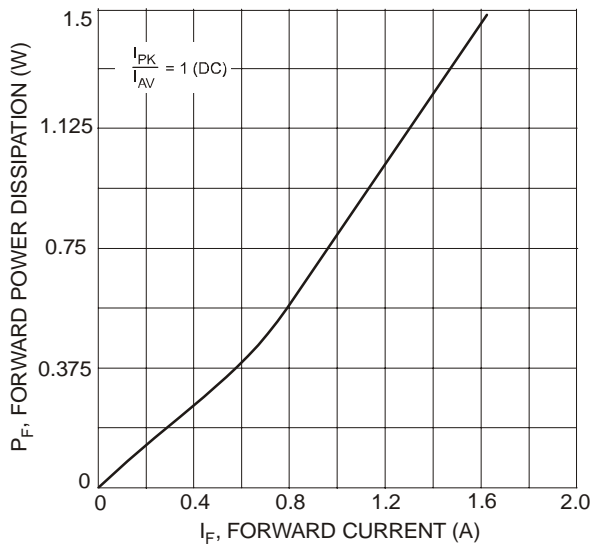

Fig. 5 Forward Power Dissipation
4. Measured with IF = 0.5A, IR = 1.0A, Ir = 0.25A. See figure 5.